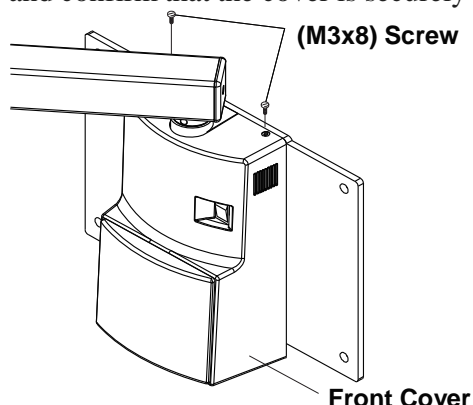

Fig.3-9B Attaching Front Cover-2
- Install two (M3 x 8mm) screws into the top of the cover and confirm that the cover is securely attached. (Fig.3-9B)